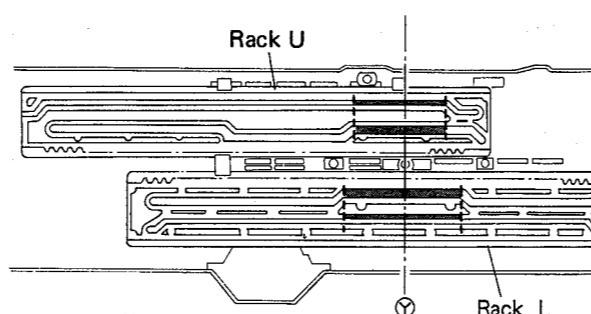

Fig. 3-4
1. Make sure that the positions of rack L and rack U are within the range indicated by the dotted lines in relation to the position of  $\odot$  in Fig. 3-4. (Position at which U, S, and L switches are all OFF.)